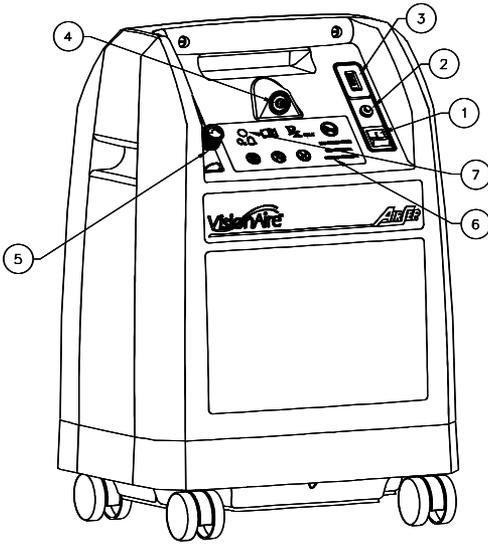

Fig. I.1
I. 1. Frontpanel (Fig. I. 1).....	2-DA
I. 1. Frontpanel (Fig. I. 1)